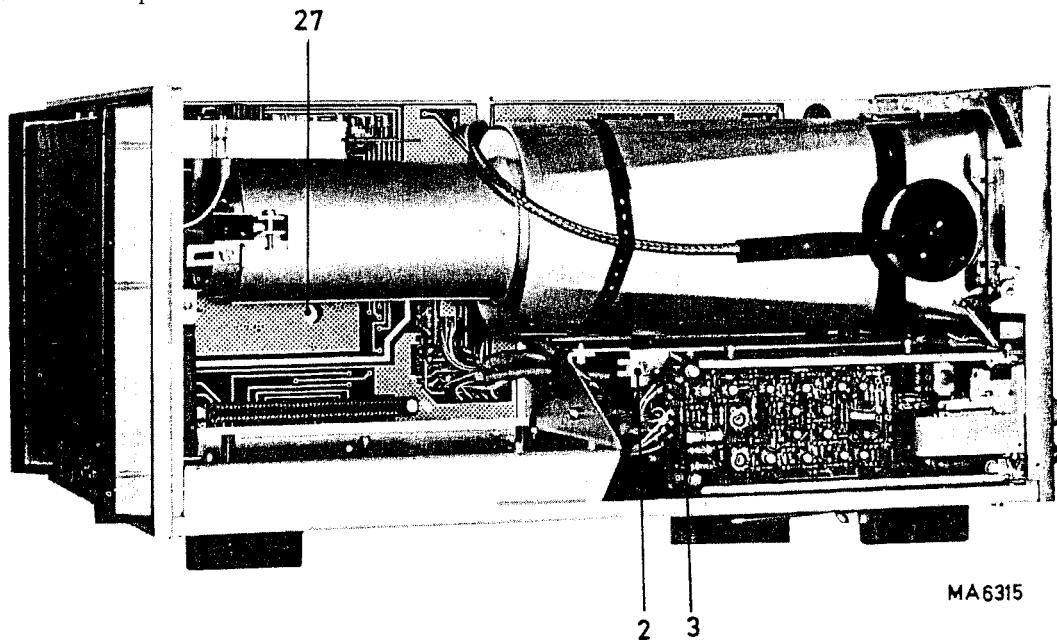

Fig. 32. Dismantling; left-hand side view
E. REMOVING PRE-AMPLIFIER UNIT 1 (Fig. 32)
(Figs. 32 & 42).
(Figs. 32 & 46)**